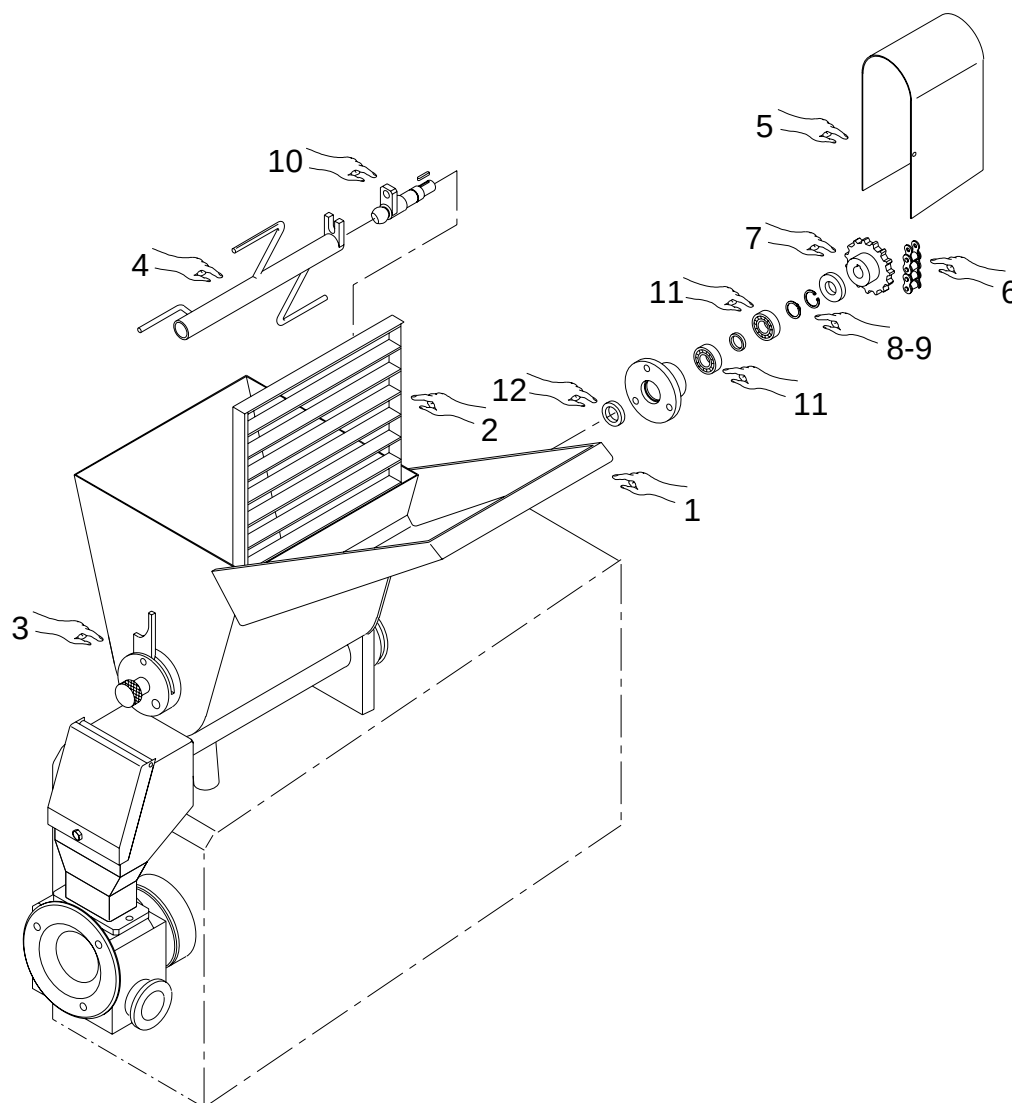
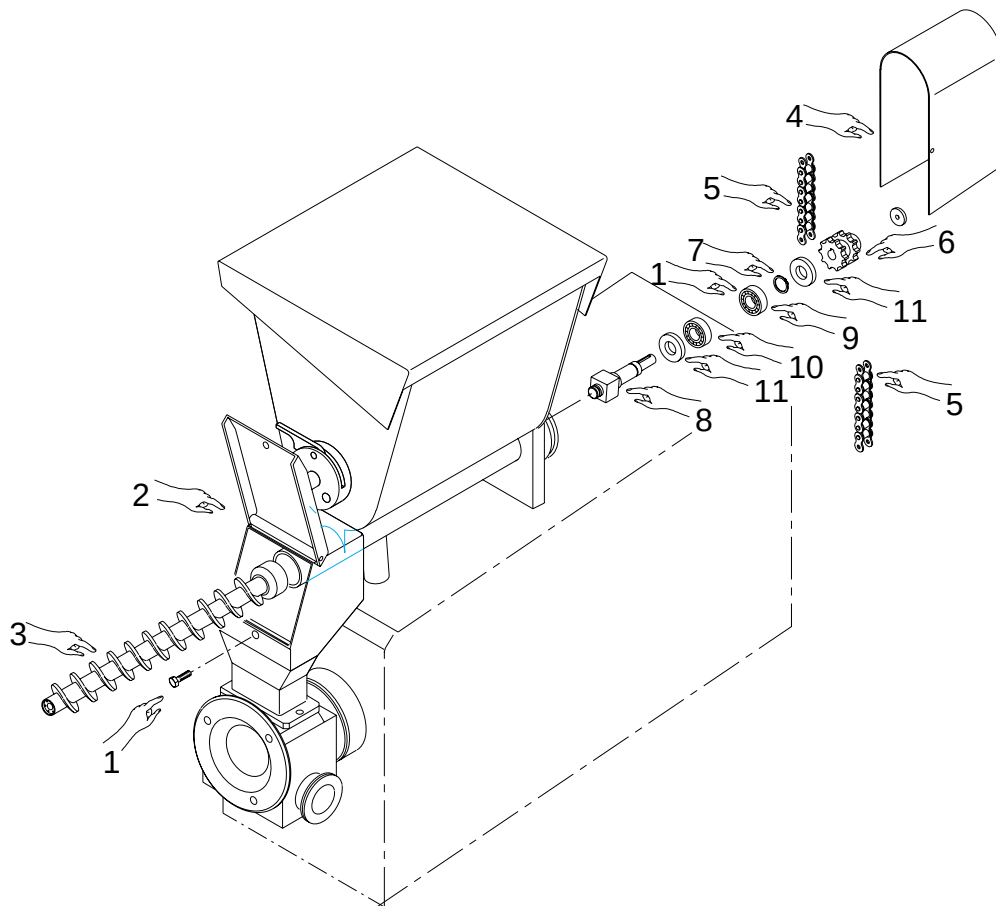

Fig.7.4
Fig.7.5
- If the slow agitator runs noisily, lift the hopper lid (1, Fig.7.4), lift the safety grid (2, Fig.7.4), move the rod (3, Fig.7.4) and take out the slow agitator (4, Fig.7.4). Take off the casing (5, Fig.7.4) and the transmission chain (6, Fig.7.4) and remove the pinion (7, Fig.7.4).
Remove the circlips (8-9, Fig.7.4), take out the shaft (10, Fig.7.4) and replace the bearings (11, Fig.7.4) and the gaskets (12, Fig.7.4).
- If the screw feeder runs noisily, take out the screw (1, Fig.7.5), open the door (2, Fig.7.5) and remove the screw feeder (3, Fig.7.5). Take off the casing (4, Fig.7.4) and the transmission chain (5, Fig.7.5) and take out the pinion (6, Fig.7.5).
Take off the circlip (7, Fig.7.5), remove the shaft (8, Fig.7.5) and replace the bearings (9-10, Fig.7.5) and the gaskets (11, Fig.7.5).
Remove the casing (6, *Fig.7.6*) and the support (7, *Fig.7.6*). Remove the shaft (8, *Fig.7.5*) and the circlip (9, *Fig.7.5*) and replace the bearing (10, *Fig.7.4*) and the gaskets (11, *Fig.7.4*).